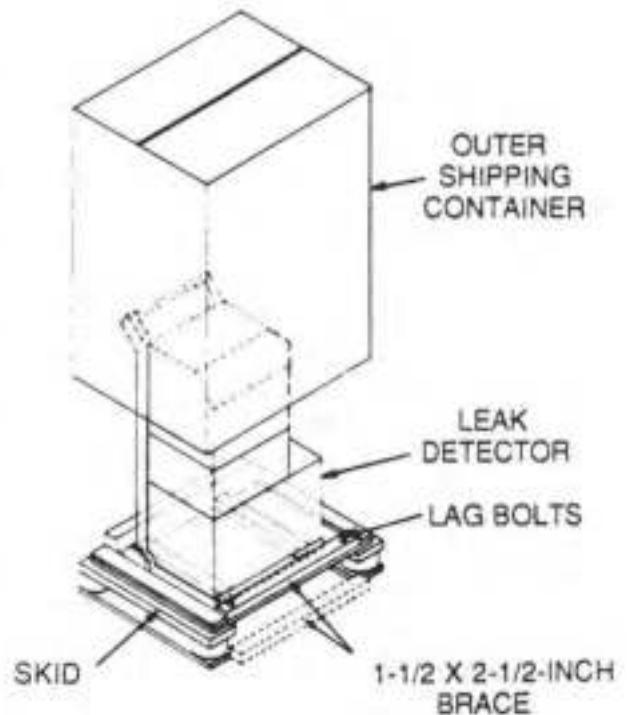

Figure 3-1. Unpacking the 956 Leak Detector
4. Carefully remove the front 1-1/2- x 2-1/2-inch brace by removing the two 3/8-diameter lag bolts. See Figure 3-1.